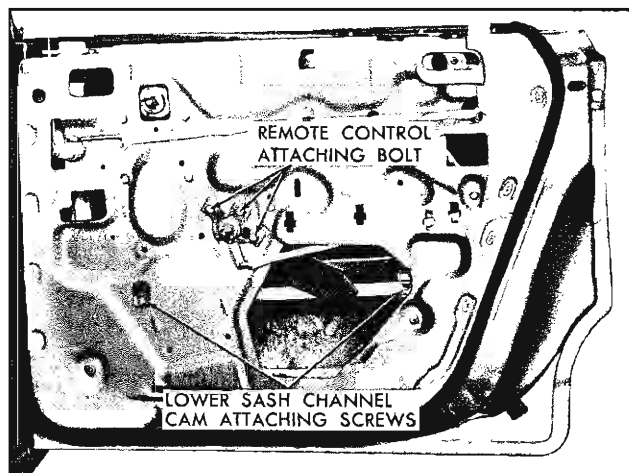

Fig. 51—Rear Door Hardware
- Lower door window sufficiently to gain access to sash channel cam two attaching screws (through access holes in door inner panel) and remove screws (fig. 51).